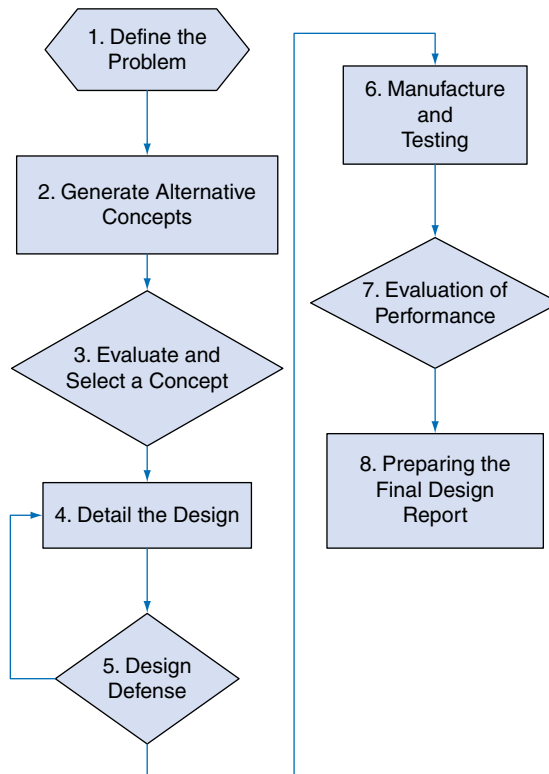

FIGURE 21.1
These steps are shown in Fig. 21.1.
4. There are eight steps in the design process discussed in this chapter (see Fig. 21.1). Where does the input from the “customer” enter into the process?
6. In the design process shown in Fig. 21.1 you are asked to “Generate Alternative Concepts” for the design. Explain why this is a necessary step.
7. In the design process shown in Fig. 21.1, you do not actually begin the design process until step 4. Why not start the design process earlier (say as Step 1) and save time?